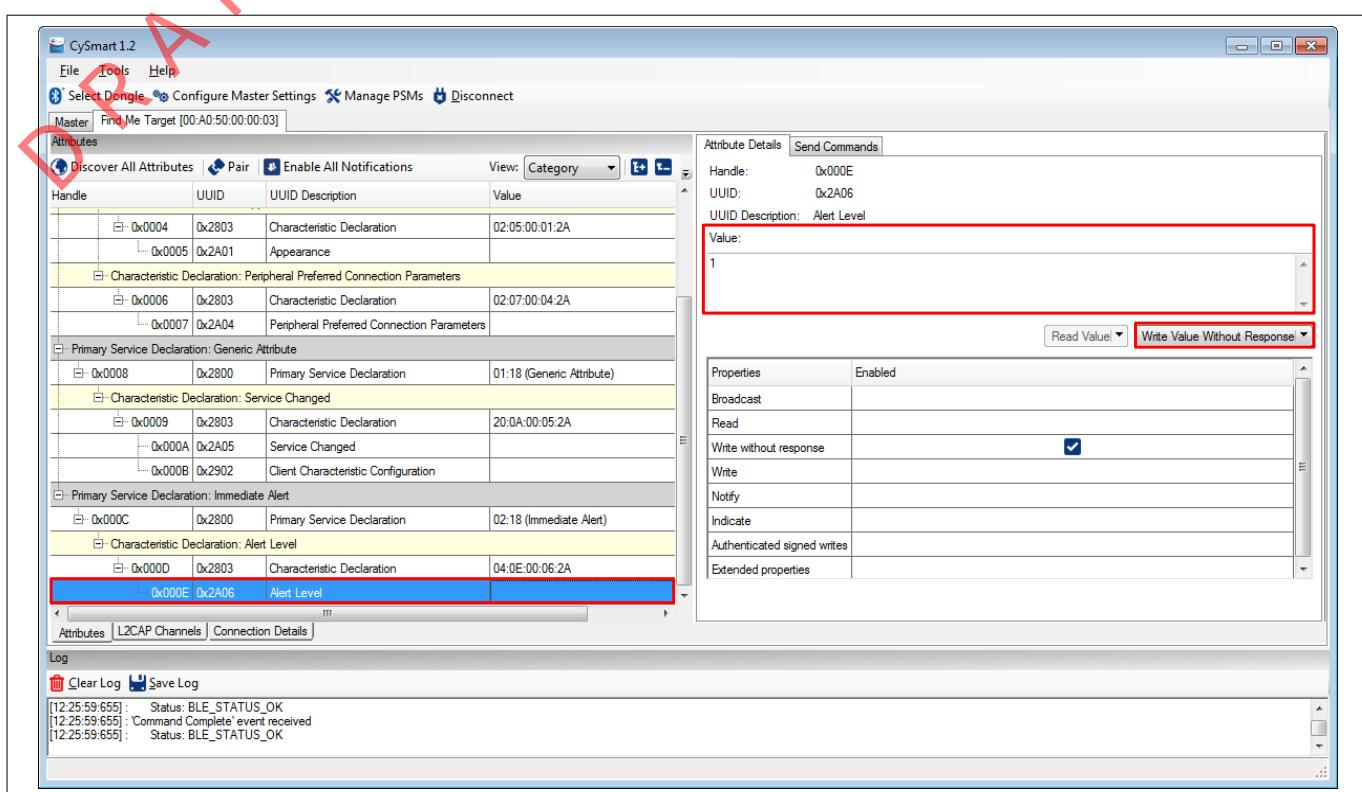

Figure 121 Testing with CySmart Host Emulation Tool
- Scroll down the **Attributes** window and locate the **Immediate Alert** Service fields. Write a value of 0, 1, or 2 to the **Alert Level** characteristic under the **Immediate Alert** Service, as Figure 121 shows. Observe the state of the LED on your device change per your Alert level characteristic configuration